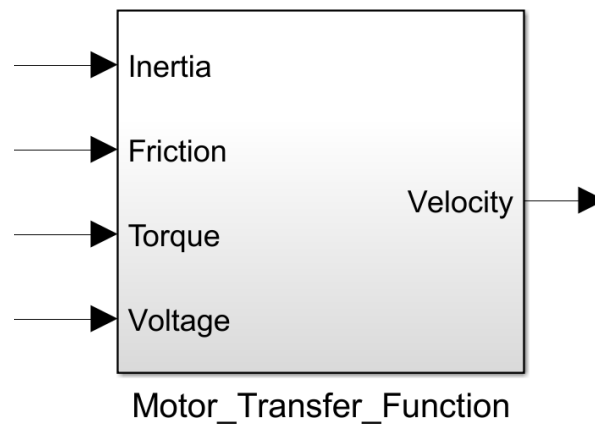
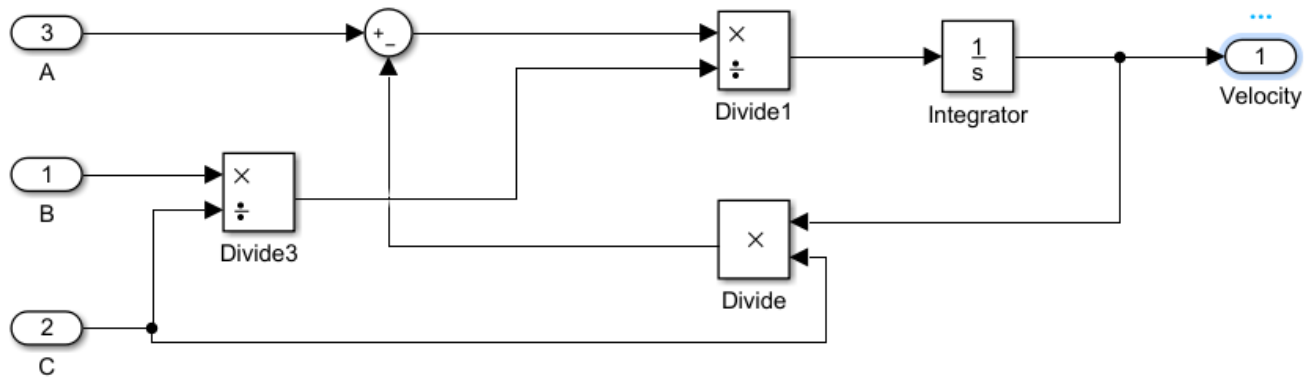

Figure 7.4: Example motor transfer function subsystem interface.
Figure 7.5: Example motor transfer function subsystem contents.
- See Figures 7.4 and 7.5 for examples of what the interface and contents of the subsystem should resemble. (Figure 7.5 doesn’t represent an actual transfer function. **Don’t try to use it!**)